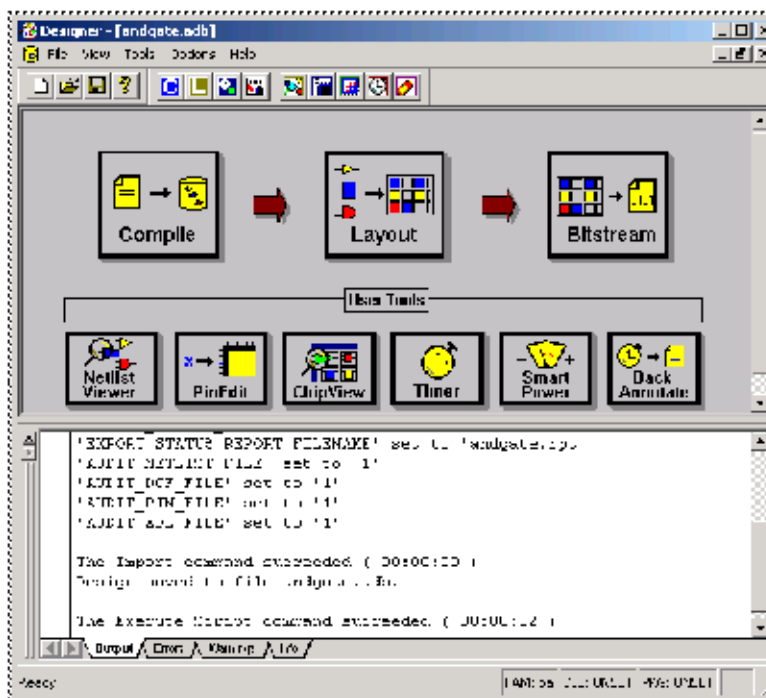

Figure 5-18. Designer
1. Double-click the *Designer Place and Route* icon in the Libero IDE Process window, or right-click the mouse on *andgate* in the Design Hierarchy tab of the Design Explorer Window, and select *Run Designer*. Actel's Designer application opens and the design file is read in (Figure 5-18).